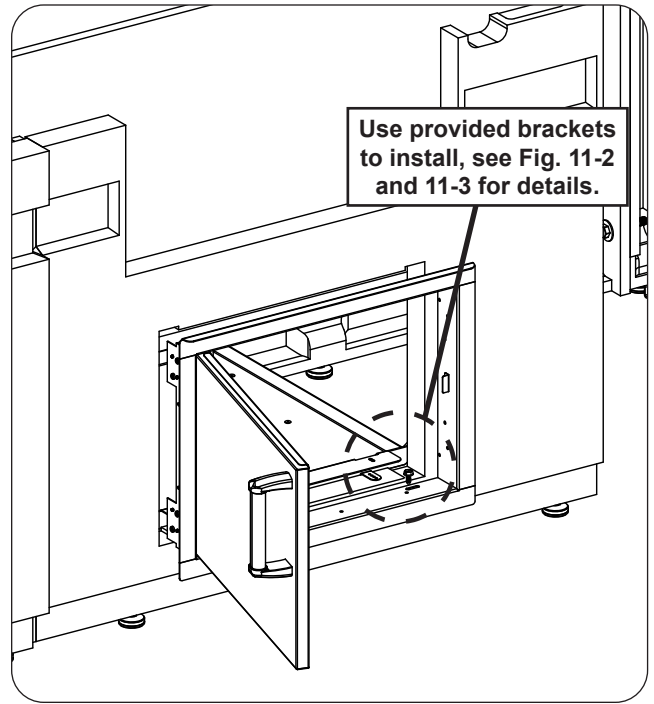
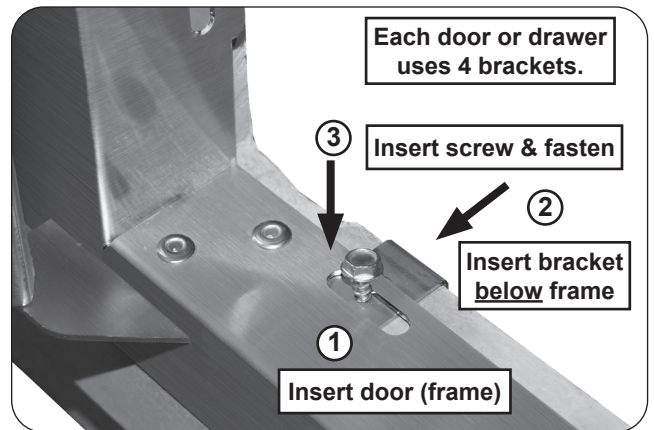
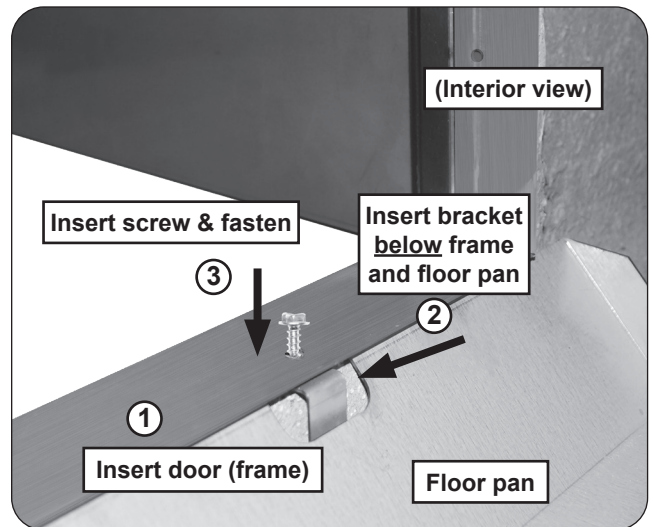

Fig. 11-1 Door / drawer install
Fig. 11-2 Door / drawer install detail
Fig. 11-3 Door / floor pan install detail
1. Insert your unit **completely** into the appropriate opening. Ensure it is flush against the exterior wall (see Fig. 11-1 and Fig. 11-2, step 1).
2. The unit will have 2 oblong cutouts (or round holes) on both the top and bottom of its frame. Reach from within the island and insert a bracket where a cutout exists, **below the frame**. See Fig. 11-2, step 2.
Note: When installing the double door ensure the bracket is inserted **below the frame AND floor pan** (see Fig 11-3, step 2).
3. While squeezing the rear of the bracket and the front of the door frame **firmly** against the concrete wall, insert a hex screw and tighten with the power drill and 5/16" hex driver (see Fig. 11-2 or Fig 11-3, step 3). **DO NOT OVERTIGHTEN.**